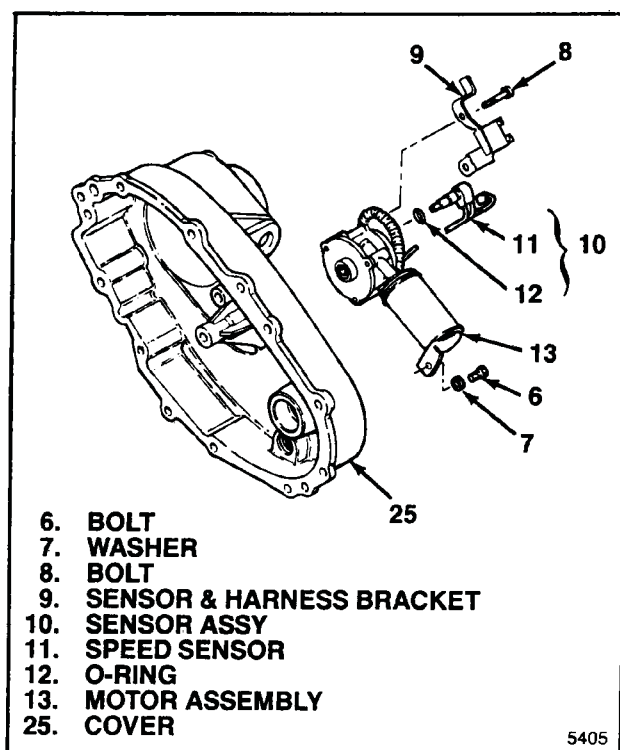

Figure 5-22. External Electric Shift Components
**5-16. INSTALLING EXTERNAL ELECTRIC SHIFT COMPONENTS (ELECTRIC SHIFT TRANSFER CASE ONLY)** (See figure 5-22). On electric shift units, install components as follows: